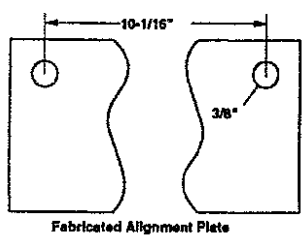

Fig. 3
1. Fabricate a plate from 1/8" steel or aluminum as shown in Figure 3.